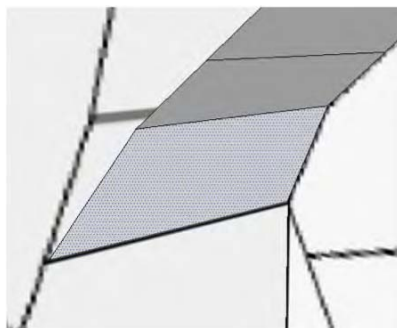

Figure 8-15. Tracing the surface above the front fender
5. The front of the model isn't complete yet. Using the Line tool, trace in the surface on top of the front grill. You will need to use the front and side views as reference to draw the lines. Figure 8-15 shows what the surface should look like after you are done.